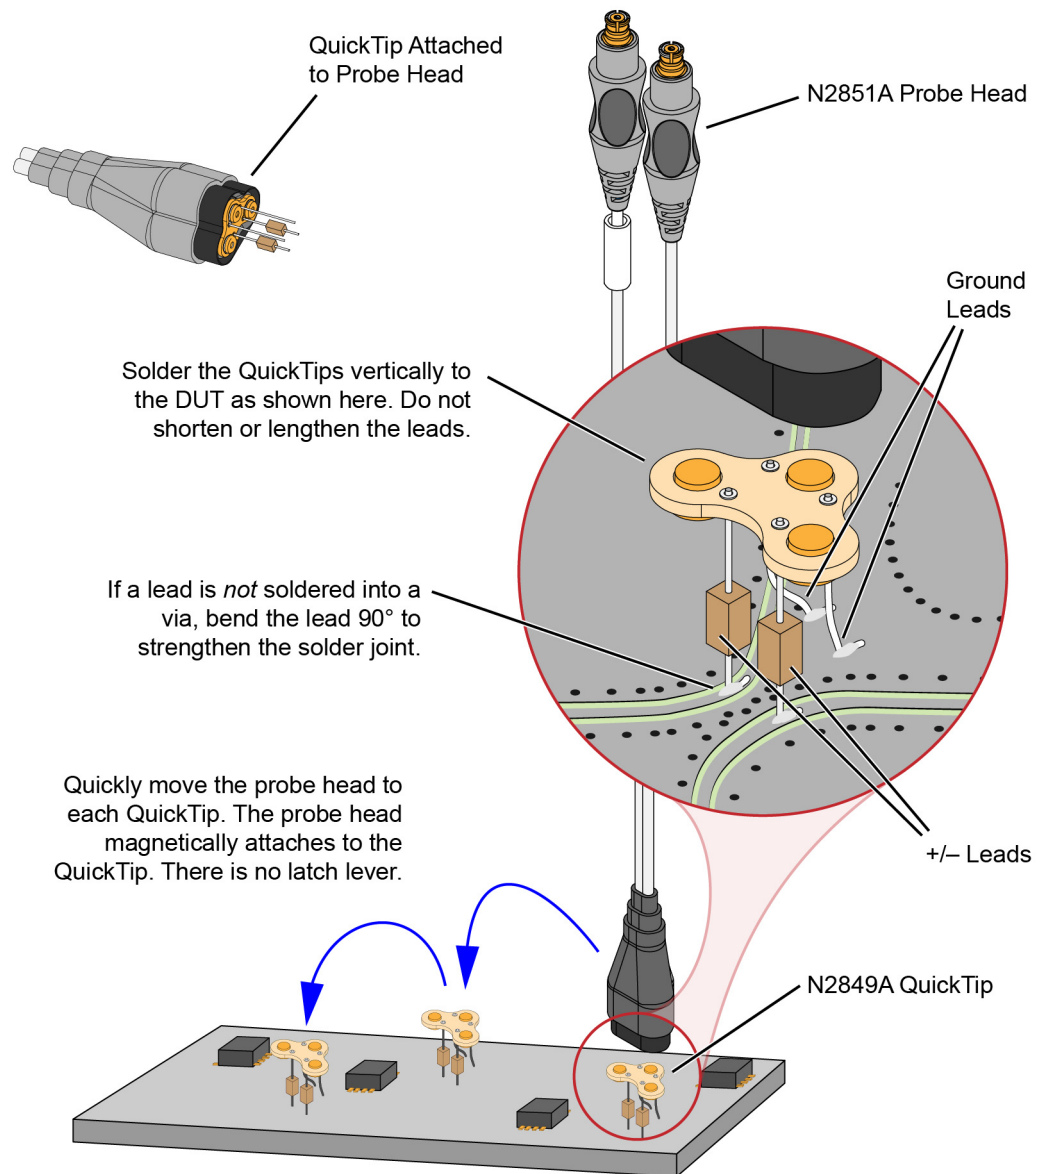

Figure 46 Probing with the N2851A Probe Head and N2849A QuickTip
Permanently solder any number of QuickTips to your DUT as shown in Figure 46 on page 71. Because the probe head is magnetically connected (instead of mechanically connected) to the QuickTip, you can effortlessly connect and disconnect to each QuickTip. For best performance, position the QuickTip vertically on the DUT. The N2849A QuickTip has two signal leads and two ground leads. The ground leads have minimal effect on your differential measurements. However, if you are making only differential measurements you can optionally cut off the ground leads or fold them out of the way. Be aware that without the ground leads, the mechanical stability of the QuickTip will be reduced and you will need to stabilize the probe head.
- Orient the QuickTip vertically as shown in Figure 46 on page 71.